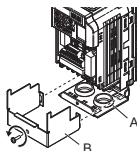

Figure 8.11 Remove the Terminal Cover on a NEMA Type 1 Drive
2. Loosen the screw on the terminal cover (Figure 8.11, B) to remove the terminal cover and expose the conduit bracket (Figure 8.11, A).